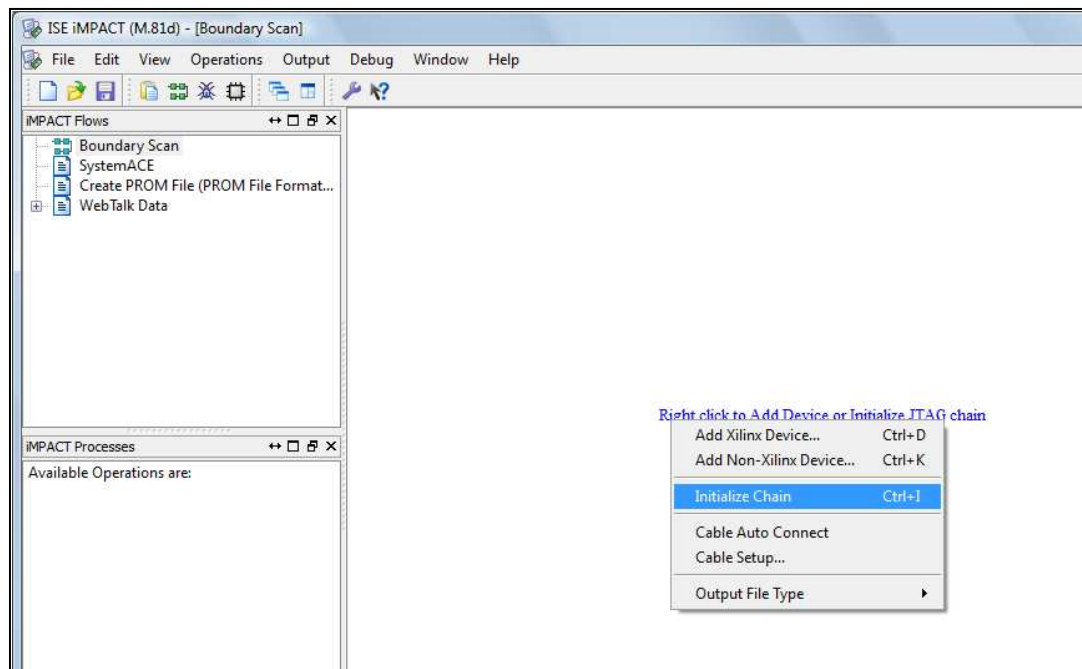

Figure 5.40: iMPACT window, showing Initialize Chain selected.
6. Right click on the text “Right click to Add Device or Initialize JTAG Chain”, and select **Initialise Chain**, as shown in Figure 5.40.